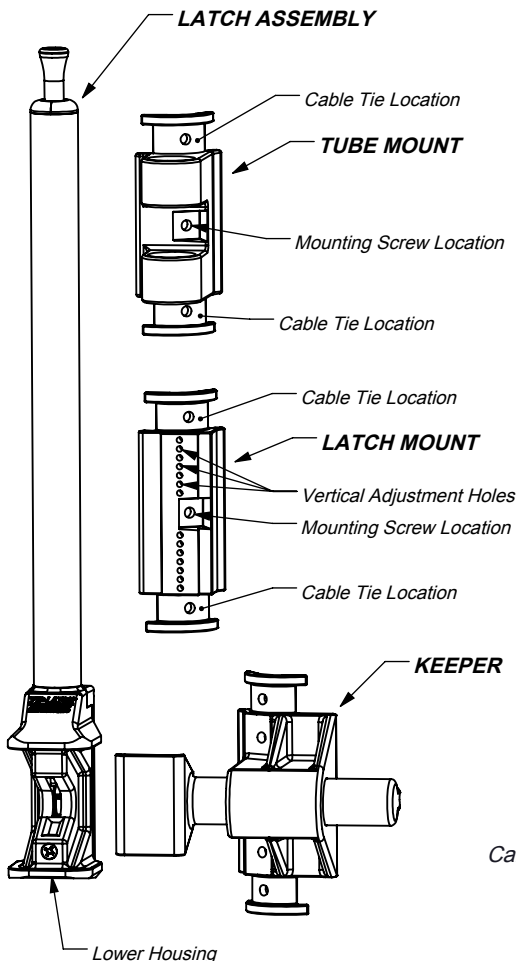

FIG. 2
PARTS LIST (included, Fig. 2):
Step 8: Check to make sure the Tube Mount and Latch Mount are still aligned with the Marks from Step 6. Using (2) Mounting Screws, secure the Tube Mount and the Latch Mount. The screw hole locations are shown in Fig. 2.
Step 10: With the Gate closed, position Keeper and align with Latch Body (Fig. 5). Secure Keeper Assembly to Gate with (2) Cable Ties and (2) Mounting Screws. The screw hole locations are shown in Fig. 2.
1. Check for proper operation. If any adjustments are needed, use the Horizontal Adjustment Screw located in the Keeper (Fig. 6) (Use ONLY Hand Screwdriver. DO NOT use a Powered Screwdriver), and / or the Vertical Adjustment holes located in the Latch Mount (Fig. 2).